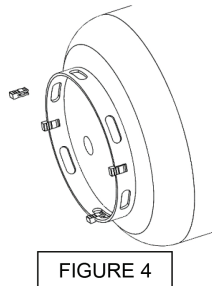

FIGURE 4
- 3.2 **See Fig 4**--If your tank sits directly on the ground or other flat surface, then you will need to install the Mopeka spacers to the bottom of the foot ring of your tank. This will provide adequate space and improved wireless range for the sensor.